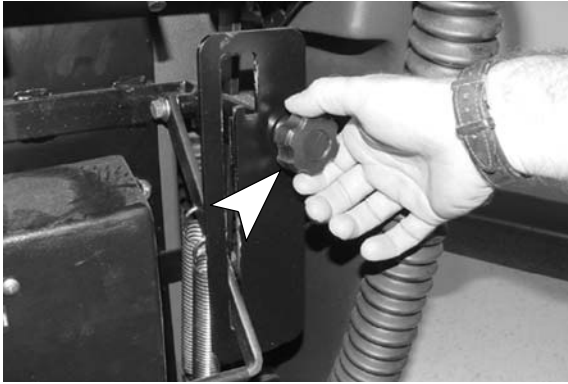

FIG. 20
**NOTE:** To increase or decrease the maximum solution flow, turn solution flow adjustment knob (for conventional scrubbing only). Turn knob clockwise to decrease solution flow or counterclockwise to increase (Figure 20).